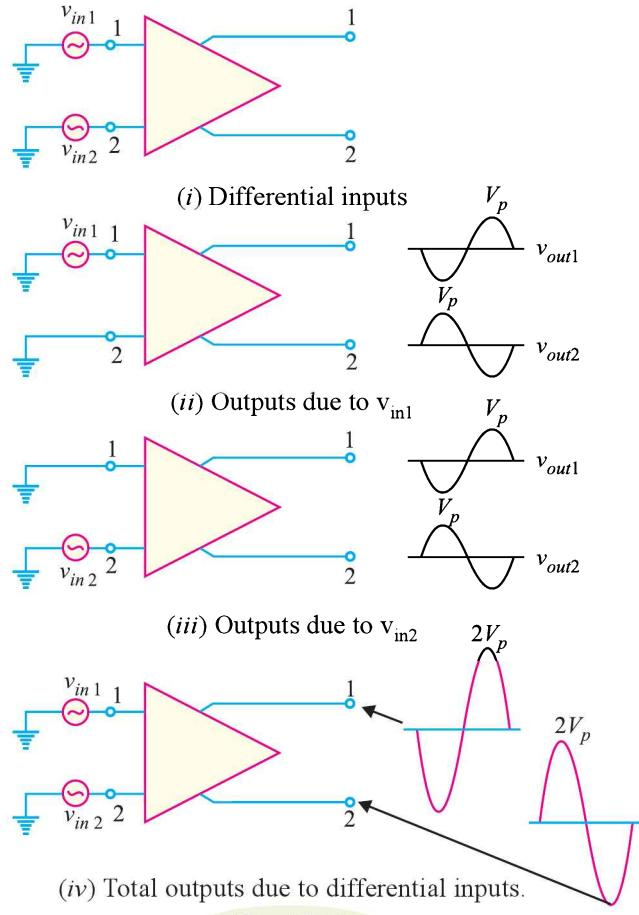

Fig. 25.10
(i) Differential input. In this mode (arrangement), two opposite-polarity (180° out of phase) signals are applied to the inputs of DA as shown in Fig. 25.10 (i).
As we shall see, each input affects the *outputs. Fig. 25.10 (ii) shows the output signals due to the signal on input 1 acting alone as a single-ended input. Fig. 25.10 (iii) shows the output signals due to the signal on **input 2 acting alone as a single-ended input. Note that in Figs. 25.10 (ii) and (iii), the signals on output 1 are of the same polarity. The same is also true for output 2. By superimposing both output 1 signals and both output 2 signals, we get the total outputs due to differential inputs [See Fig. 25.10(iv)].
* Note that in all the Figures in Fig. 25.10, the phase of the input signal is given in the circle and the phase shift in the output signal is given at the output terminals. Thus in Fig. 25.10 (ii), the output signal at terminal 1 is 180° out of phase with the input signal. On the other hand, the output signal at terminal 2 is in phase with the input signal.
** Note that a DA amplifies $(v_1 - v_2)$. For Fig. 25.10 (ii), $v_{in1} - v_{in2} = v_{m1} - 0 = v_{m1}$. For Fig. 25.10 (iii), $v_{in1} - v_{in2} = 0 - v_{in2} = -v_{in2}$.